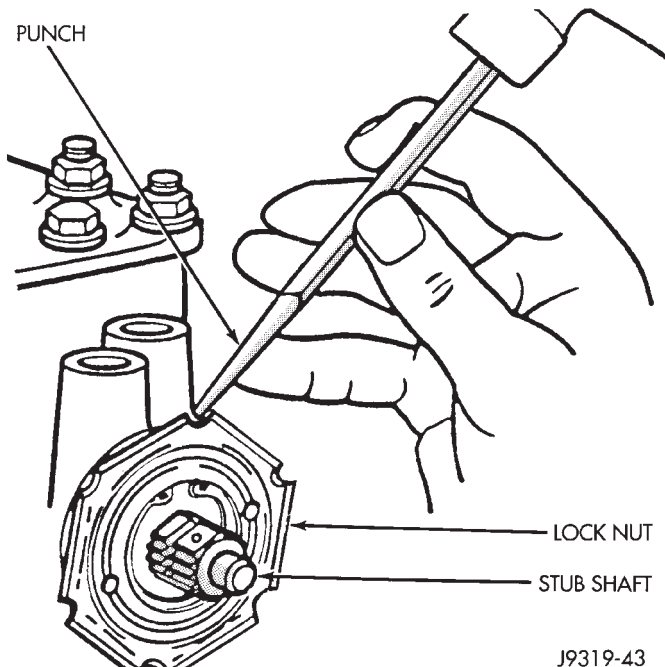

Fig. 26 Loosening the Adjuster Plug
(2) Remove adjuster plug locknut (Fig. 26).
(3) Rotate the stub shaft back and forth with a 12 point socket to drain the remaining fluid.